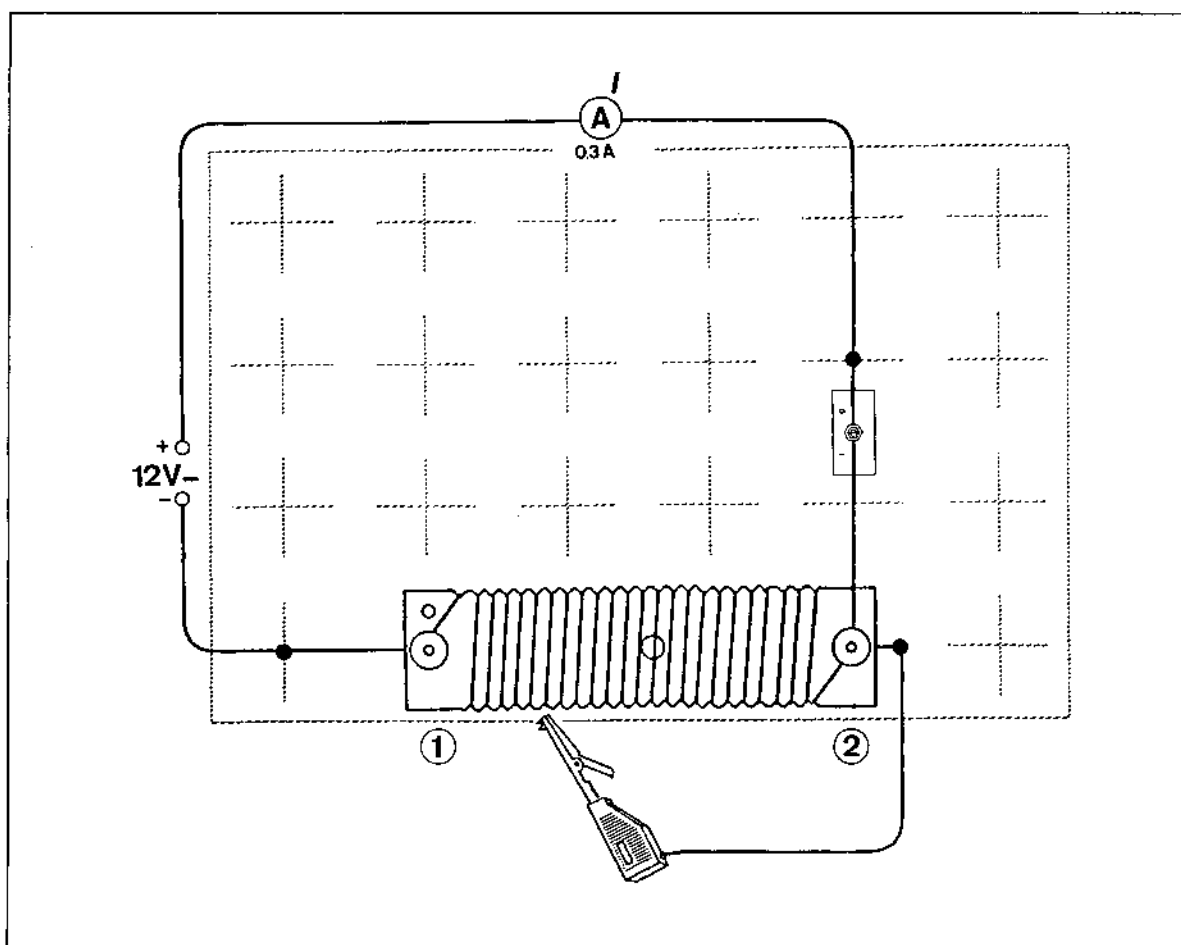

Fig. 1 Experiment setup:
2. Build the circuit shown in fig. 1. Make sure you have connected the \oplus and \ominus terminals correctly, and set the right measuring ranges on the measuring instruments. The switch should only be closed while a measurement is being made.